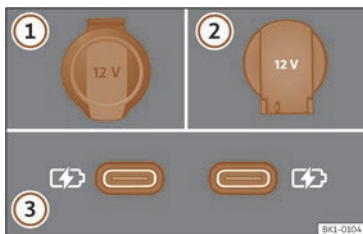

Fig. 161 Vehicle 12 volt socket.
>>> Fig. 161
Depending on the equipment and the country, the vehicle may also have USB connections **exclusively for charging or as a power socket** >>> **Fig. 161 ③**.